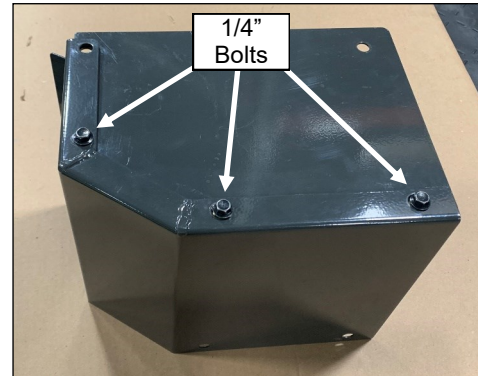

Fig. 9.4 (Assemble Cover Panel)
- 9.4 See fig. 9.4. Assemble the rear shroud panel and cover together as shown. Leave the bolts loose at this time.